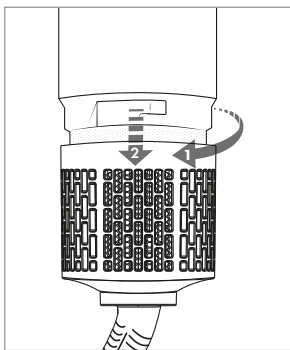

Fig. 9
- To clean the air inlet, turn the air inlet grille **5** anticlockwise and remove it from the appliance housing (see Fig. 9). Use a dry cloth or a soft brush to remove the dust from the underlying filter mesh until all residues have been completely removed. Then fasten the air inlet grille **5** onto the appliance housing again by turning the air inlet grille **5** clockwise up to the stop.